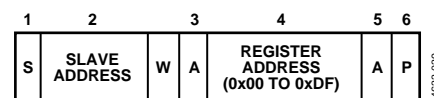

Figure 34. Setting a RAM Address for Subsequent Read
- To write a register address to RAM for a subsequent single byte read from the same address, or a block read or write starting at that address, as shown in Figure 34.